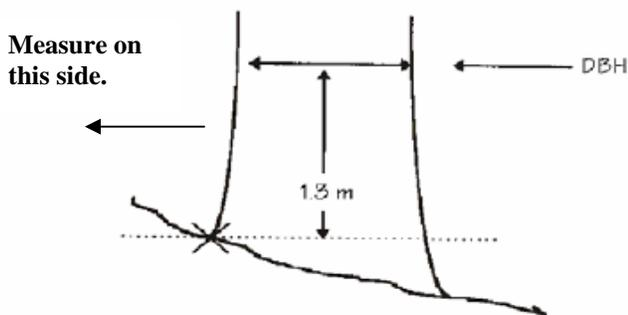

Fig. 4. DBH measurement on sloping ground, measure on up slope side of tree facing down slope.
- On sloping ground, DBH is to be measured from the uphill side facing down slope unless the point of germination is lower. See Figures 4 and 6.